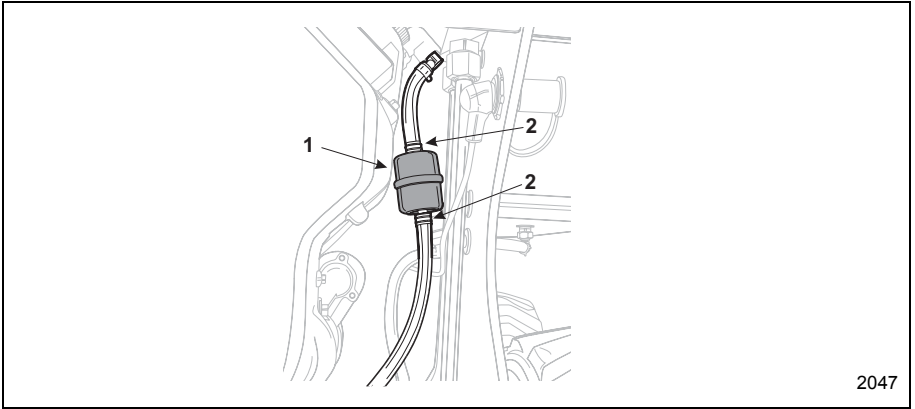
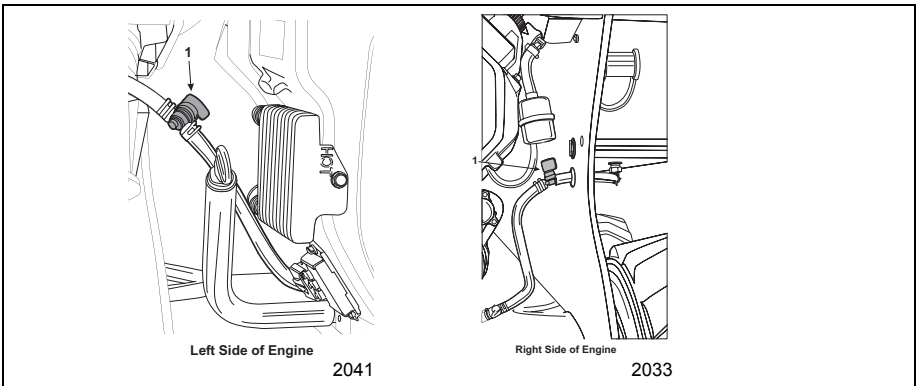

Figure 4-20 Fuel Filter
Figure 4-21 Fuel Shut Off Valves
4. Replace fuel filter (Item 1, Figure 4-20). Shut off fuel at both of the fuel shut off valves (Item 1, Figure 4-21) by rotating the valve handle horizontally across the fuel line, shutting off the fuel. Remove the spring clamps (Item 2, Figure 4-20) from above and below the fuel filter and remove the fuel lines. Replace the fuel filter with a new filter.